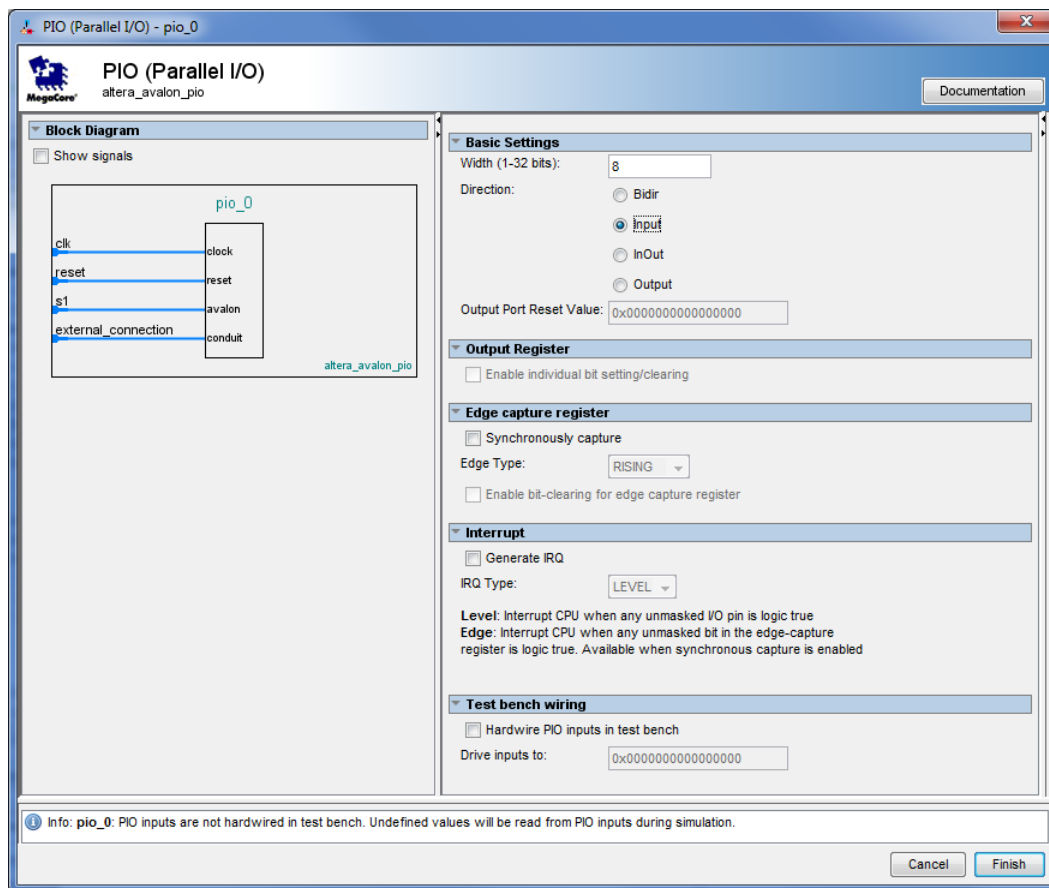

Figure 12. Define a parallel input interface.
- Select Peripherals > Microcontroller Peripherals > PIO (Parallel I/O) and click Add to reach the PIO Configuration Wizard in Figure 12